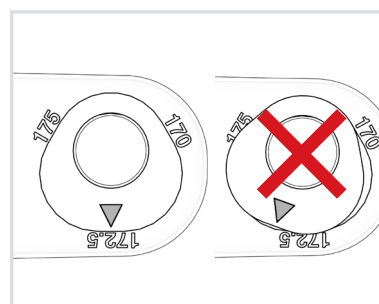

FIG. 4
- Position the arrow on the Tri-lobed washer facing the marking of the desired length. Make sure the washer is aligned correctly and sitting flush inside the crank (Fig. 4). Insert the Tri-lobed nut from the backside. Make sure the holes of the washer and nut are concentric with each other.